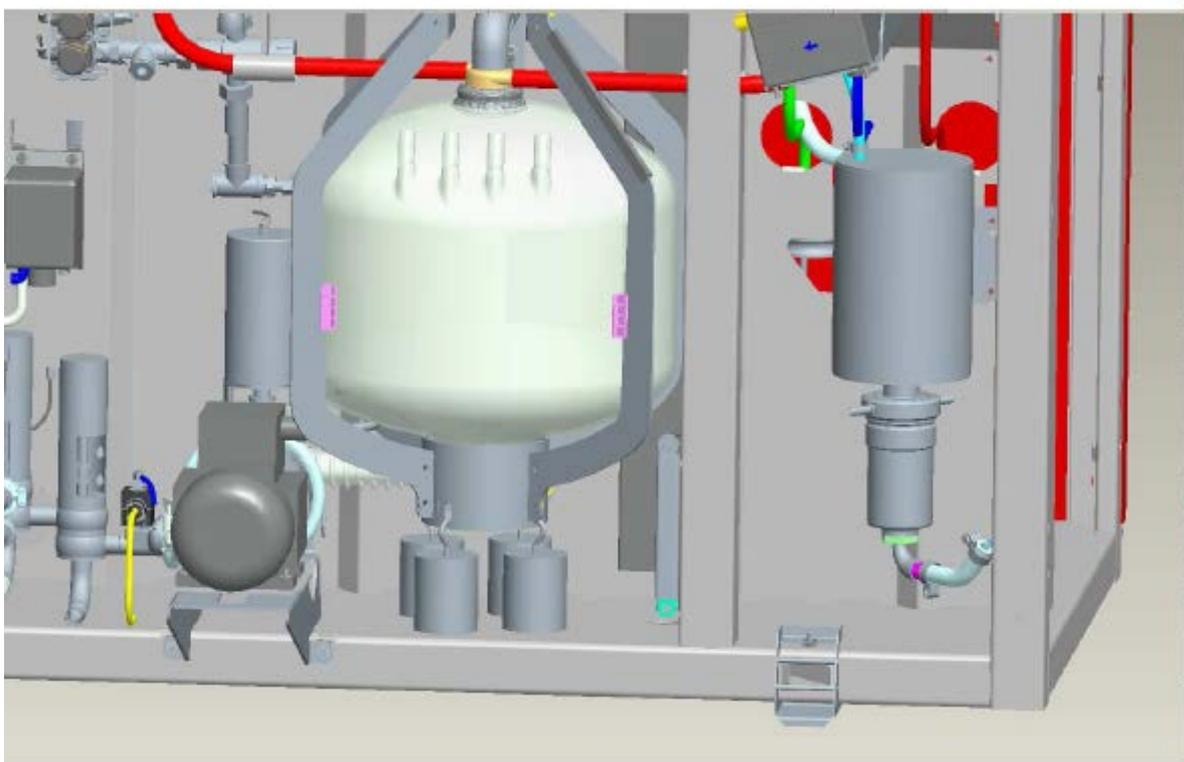

Figure 4.
2. Use four calibrated weights of 2,5 kg to hang at the bottom of the MWS in the predetermined holes (Figure 4)